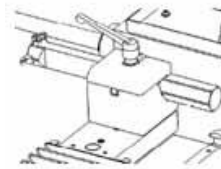

Fig.6
2). Place the tool bar tube over the clamp stud, add the washer and secure using the clamp handle. (Figure 6)